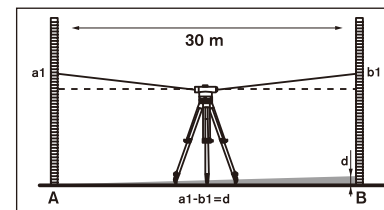

fig.10
1. Checking should be done at a distance of 30m. Place the instrument in the center of this distance, put 2 leveling rod at the both end of measuring distance A and B separately. (see fig.10)